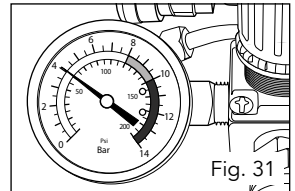

Fig. 31
1. Ensure that you check that the safety valve (10) is in working order every day that the unit is in operation. To check the valve, first pressurise the tank to close to maximum pressure (Fig. 31).